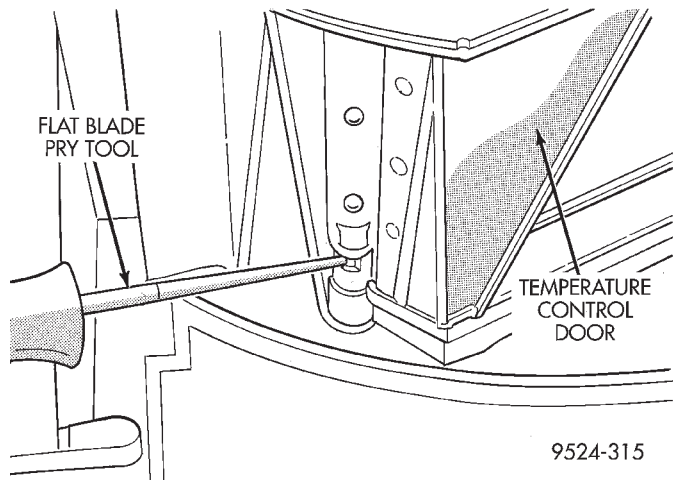
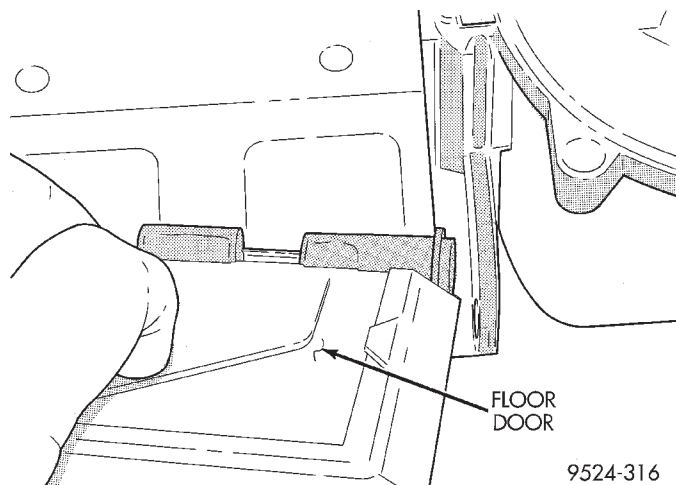

Fig. 108 Temperature Control Door Removal
Fig. 109 Floor Door Removal
- (38) Depress retaining clip at temperature control door, remove temperature control door (Fig. 108).
- (39) Unsnap panel door from rear half of housing. Remove door from housing.
- (40) Unsnap floor door from front half of housing. Remove door from housing (Fig. 109).